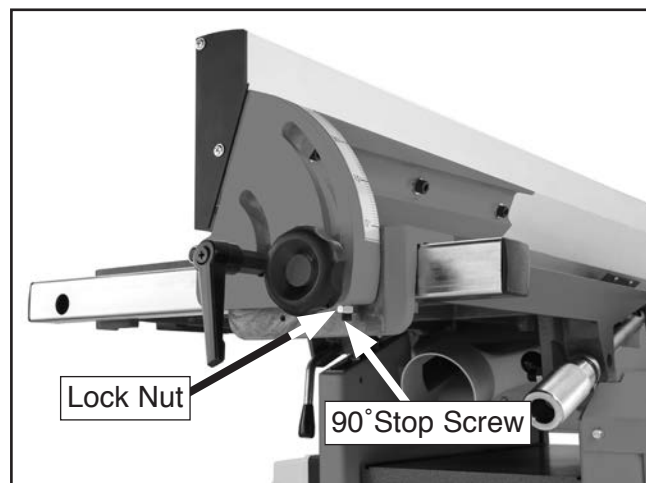

Figure 74. Adjusting fence to 90°.
1. Loosen lock nut on 90° fence stop screw shown in **Figure 74**, and loosen fence tilt knob.